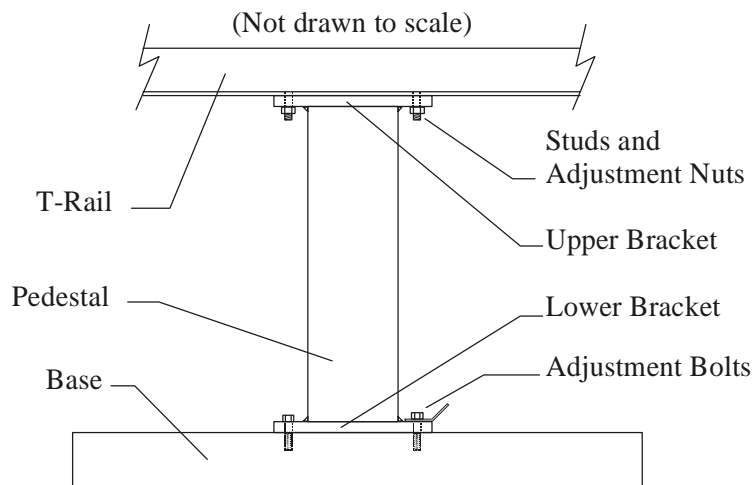

Figure 4-2. Pedestal (covers removed)
2. Loosen the four bolts fastening the top of the pedestal and the four bolts fastening the bottom of the pedestal (see Figure 4-2).